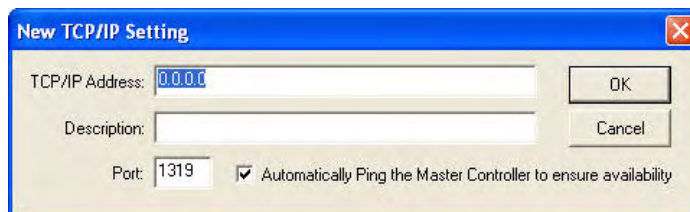

FIG. 85 NetLinx Studio - New TCP/IP Setting dialog
- Click **New** to add the Master's IP Address, via the *New TCP/IP Setting* dialog (FIG. 85).